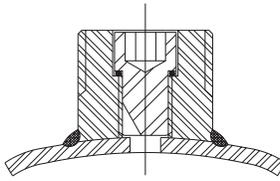
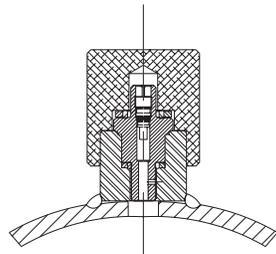
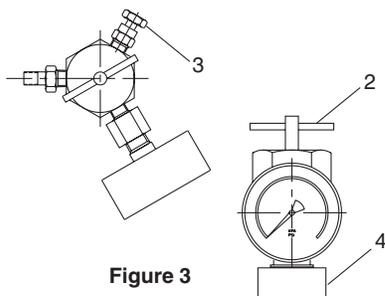

Figure 5
Figure 6
Figure 3
Make sure nitrogen supply is shut off. Attach hose to nitrogen bottle. If accumulator has a gas valve as shown in Figure 5 follow steps A through K. If accumulator has a gas valve as shown in Figure 6, skip steps A through J and follow steps AA through JJ. Before starting, lubricate the shell and bladder by placing a small amount of system fluid in the oil port and rotate the accumulator a few times.
Accumulator having gas valve as per Figure 5.
For diaphragm units having a gas valve configured like Figure 5
- (A) Remove protective cover from accumulator.
- (B) Refer to Figure 3. Turn the charging device "T" handle (2) all the way in (clockwise) attach charging and gauging head assembly by screwing mounting nut (4) to the gas end of the Diaphragm accumulator.
- (C) Close bleed valve (3).
- (D) Turn "T" handle (2) in counterclockwise motion until rotation stops.
- (E) When finished checking the precharge, turn "T" handle (2) clockwise all the way, then open bleed valve (3) to bleed all residual pressure from the charging device.
- (F) Hold "T" handle (2) to keep from turning, loosen nut (4), remove the assembly from the accumulator.
- (G) Torque the Allen head screw to 14.5 ft-lb + 3 (20 Nm + 9).
- (H) Replace protective cap.
For accumulators having gas valve as shown in Figure 5, attach gauging assembly as shown in Figure 3 following Steps A through D. Then, open bleed valve (3) until all gas pre-charge is relieved from accumulator. Then remove gauging assembly. The accumulator is now safe to remove from the system.